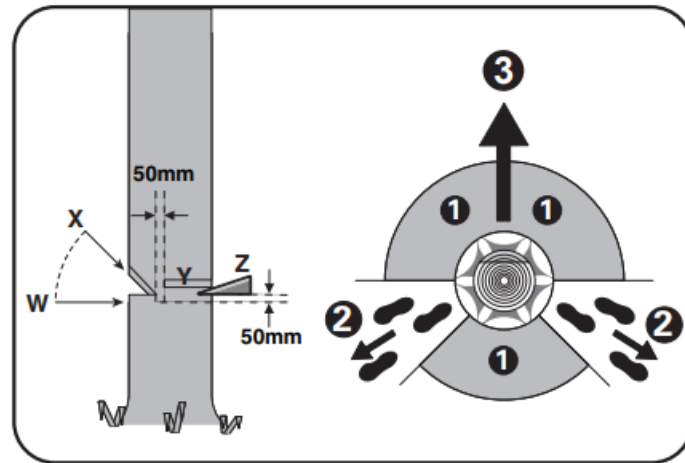

Figure 1
When bucking and felling operations are being performed by two or more persons at the same time, the felling operations should be separated from the bucking operation by a distance of at least twice the height of the tree being felled. Trees should not be felled in a manner that would endanger any person, strike any utility line, or cause any property damage. If the tree does make contact with any utility line, the company should be notified immediately. The Chainsaw operator should keep on the uphill side of the terrain as the tree is likely to roll or slide downhill after it is felled. An escape path should be planned and cleared as necessary before cuts are started. The escape path should extend back and diagonally to the rear of the expected line of fall as illustrated in Figure 1. Before felling is started, consider the natural lean of the tree, the location of larger branches, and the wind direction to judge which way the tree will fall. Remove dirt, stones, loose bark, nails, staples, and wire from the tree.
Make the notch 1/3 the diameter of the tree, perpendicular to the direction of falls as illustrated in Figure 1. Make the lower horizontal notching cut (W) first. This will help to avoid pinching either the saw chain or the guide bar when the second notch (X) is being made.
Make the felling back cut (Y) at least 50 mm higher than the horizontal notching cut as illustrated in Figure 1. Keep the felling back cut parallel to the horizontal notching cut. Make the felling back cut so enough wood is left to act as a hinge. The hingewood keeps the tree from twisting and falling in the wrong direction. Do not cut through the hinge. As the felling gets close to the hinge, the tree should begin to fall. If there is any chance that the tree may not fall in desired direction or it may rock back and bind the saw chain, stop cutting before the felling back cut is
complete and use wedges of wood, plastic or aluminum (Z) to open the cut and drop the tree along the desired line of fall (3). When the tree begins to fall remove the Chainsaw from the cut, stop the motor, put the Chainsaw down, then use the retreat path planned (2). Be alert for overhead limbs falling and watch your footing. (See Figure 1)